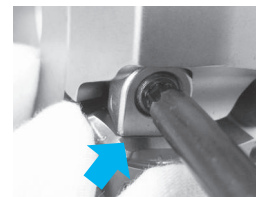

Fig. 3
3. Install the insert (Fig. 3), and tighten the wedge screw temporary. Temporarily tighten the screw with a 40 to 45 degree rotation after the wedge contacts the insert.